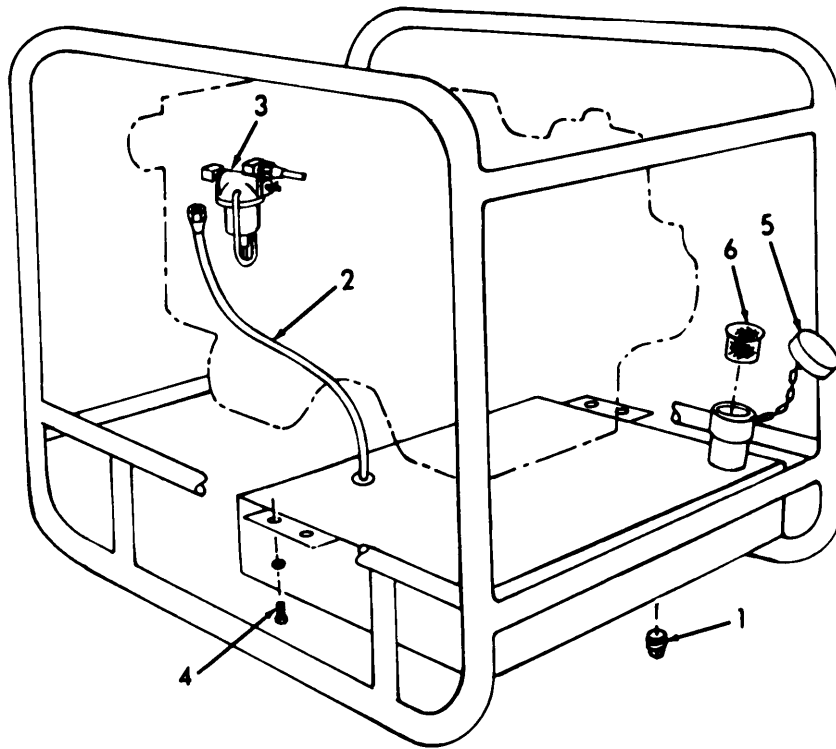

Figure 4-1. Fuel tank removal
(1) Refer to figure 4-1. Remove drain plug (1) and drain fuel into a suitable container.
(2) Disconnect fuel line (2) at fuel filter (3).
(3) Remove screws (4) that attach fuel tank to frame.
(4) Remove fuel tank cap (5) and strainer (6).